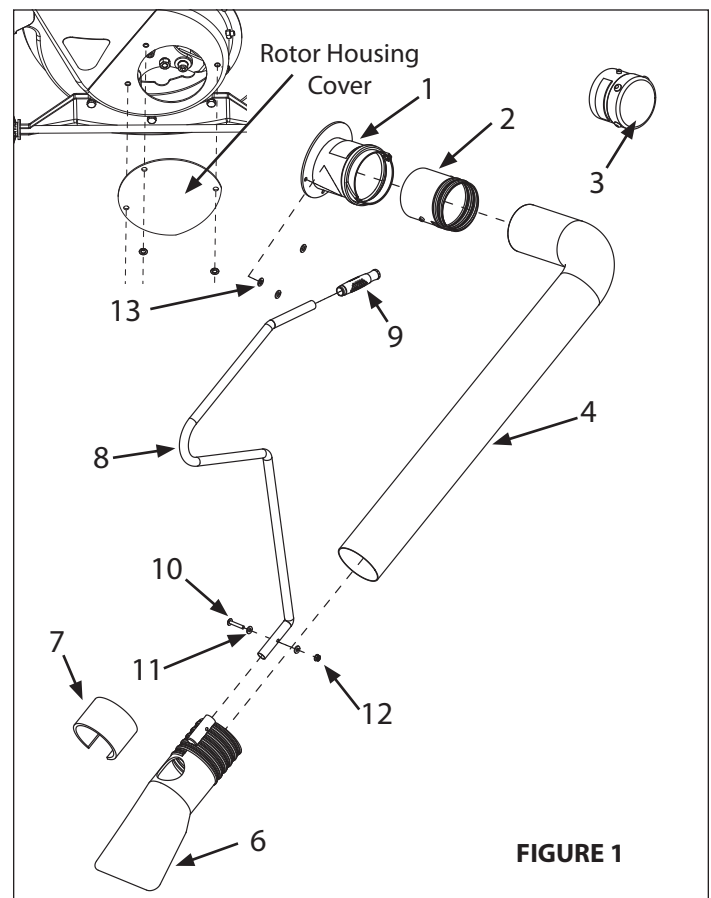

FIGURE 1
1. Remove the rotor housing cover, retain the bolts. **FIGURE 1**
2. Replace the cover with the adapter (1) using the bolts removed in step one and the washers (13). **FIGURE 1**
3. Twist the coupler (2) onto the end of the hose (4), insert the coupler into the adapter by aligning the arrows (or seams) running along the top of the coupler with those on the adapter. Push fully in and turn until it snaps into place. **FIGURE 1**
NOTE: Insert plug (3) into adapter when vacuum attachment is not in use. **FIGURE 1**
4. Connect the handle to the nozzle (6) using the bolt (10), two washers (11) and nut (12). **FIGURE 1**
5. Thread the nozzle (6) to the hose. **FIGURE 1**